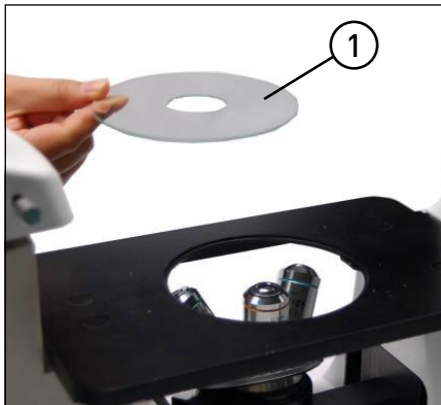

FIGURE 9
2.2.6 Installing the stage inserted plate (Fig. 9)